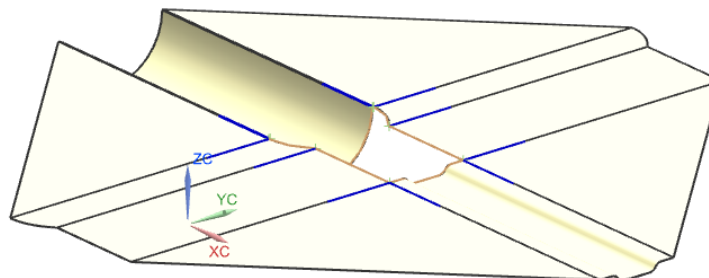

Figure 16-103 Parting surface of the component
4. Select **Segment 1** from the **Parting Segments** sub-rollout of the **Parting Lines** rollout. Next, choose the **Swept** button from the **Method** area of the **Creating Parting Surface** rollout. Specify the first and second directions. Enter **250** as the value in the **Extend Distance** dynamic edit box and choose the **Apply** button. Similarly, create parting surface for other portion of the part, refer to Figure 16-103.